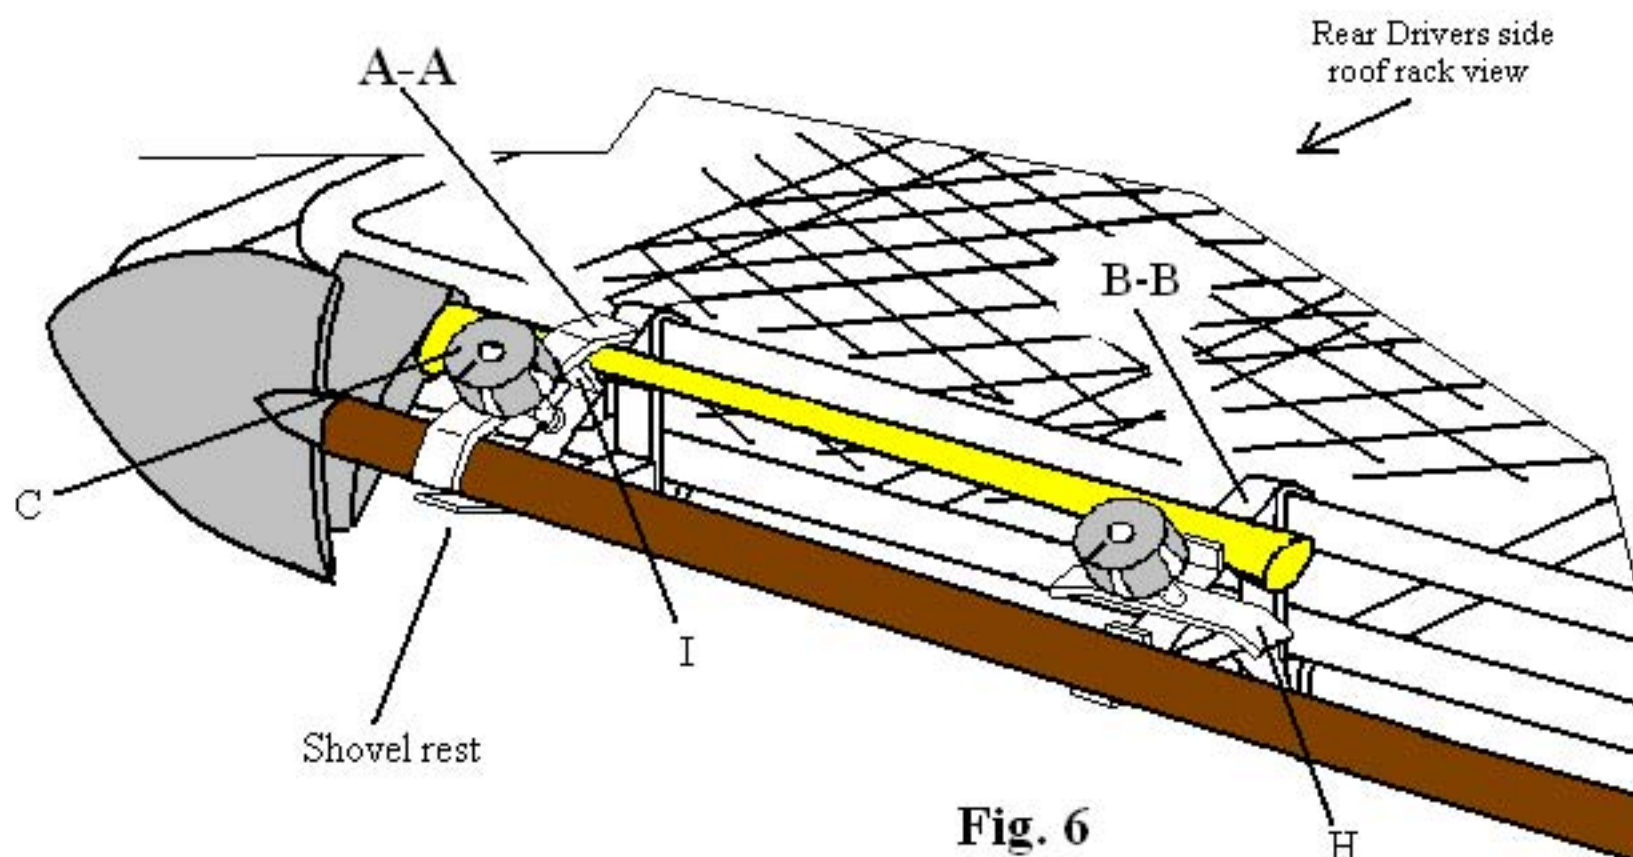

Fig. 6
- 3- Loosen both locking knobs "C" to the top end of the threaded studs and swing each pinch clamp "H" side ways as shown in Fig. 6 page 6 Bracket "B-B".
- A) Loosen both locking knobs "C" and swing pinch clamps "H" sideways as shown in Fig 6 page 6.
- B) Place the Axe onto the Axe resting plates "I" with the Axe head towards the end of the roof rack or bracket "A-A" as shown in Fig 6 page 6 and hold with one hand at this time.
- C) Place the Shovel onto the lower shovel rests as shown in Fig 6 page 6 with the spade end of the shovel towards bracket "A-A" or the end of the roof rack covering the Axe head. With one hand holding both tools in place turn one of the pinch clamps "H" over the Axe and Shovel handles and clamp down using the locking knob "C". When one side is held in place continue to the other pinch clamp turn pinch clamp "H" vertical so that the clamp also covers the tool handles and clamp down using the locking knobs as shown in Fig 6 page 6.